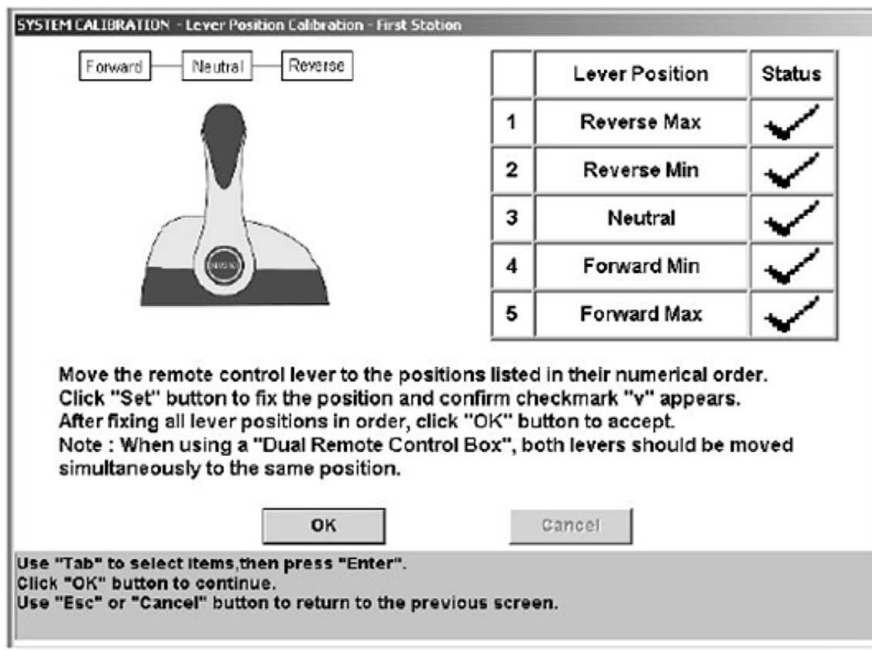

Figure 6-16. Save calibrated values.
- When all lever positions have been set, and the screen shows check marks next to all of them (see Figure 6-16), return the control levers to the neutral position and click **OK** to save the calibration.